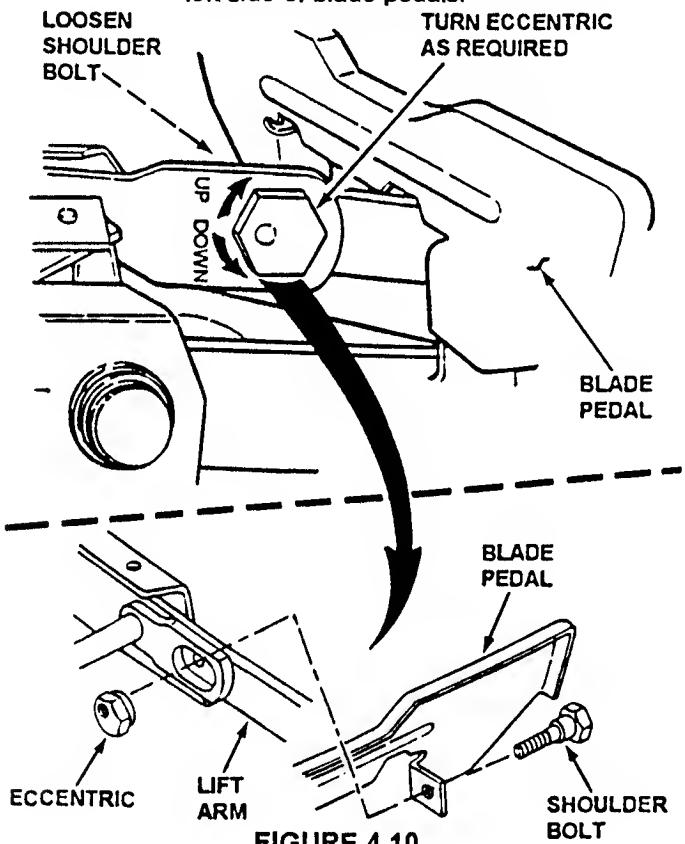

FIGURE 4.10
- g. Turn eccentric "UP" or "DOWN" as required until blade tips are within $1/8"$ of each other. See Figure 4.10.